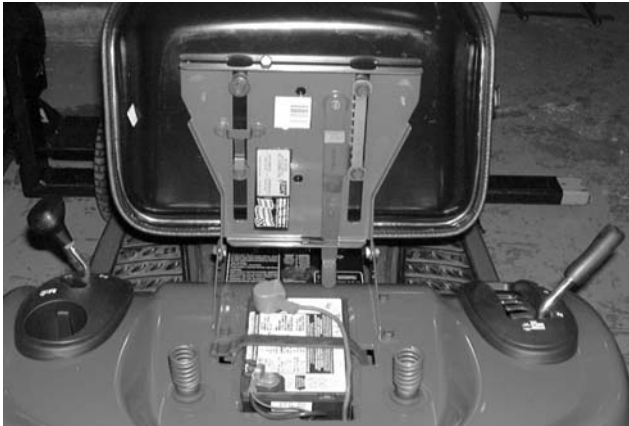

Figure 9-18
1. Raise the seat of the tractor and disconnect the battery cables from the battery. Remove the negative cable first. See Figure 9-18.